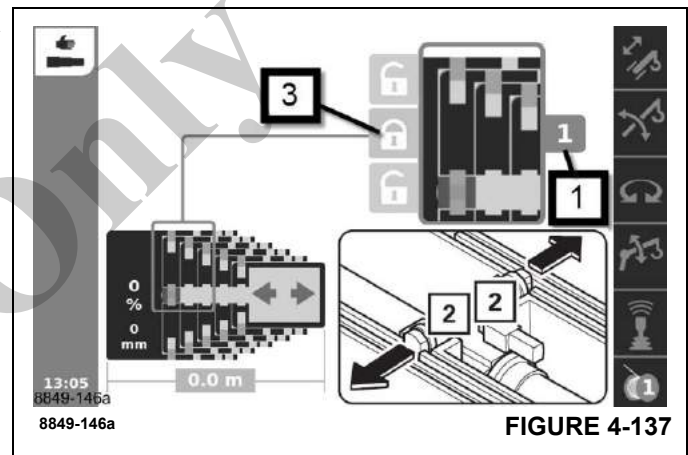

FIGURE 4-137
- Telescope to the desired fixed length, e. g. telescopic section (1), (Figure 4-137) 1 to 100%.